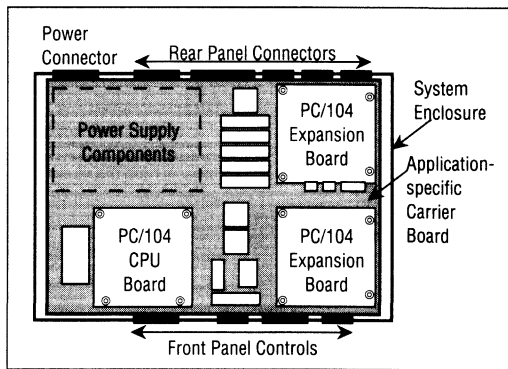

Figure 3. Component-like Applications
**Component-Like Applications:** Another way to use PC/104 modules is illustrated in Figure 3. In this configuration, the modules function as highly integrated components, plugged into custom carrier boards which contain application-specific interfaces and logic. The modules' self-stacking bus can be useful for installing multiple modules in one location. This facilitates future product upgrades or options, and allows temporary addition of modules during system debug or test.